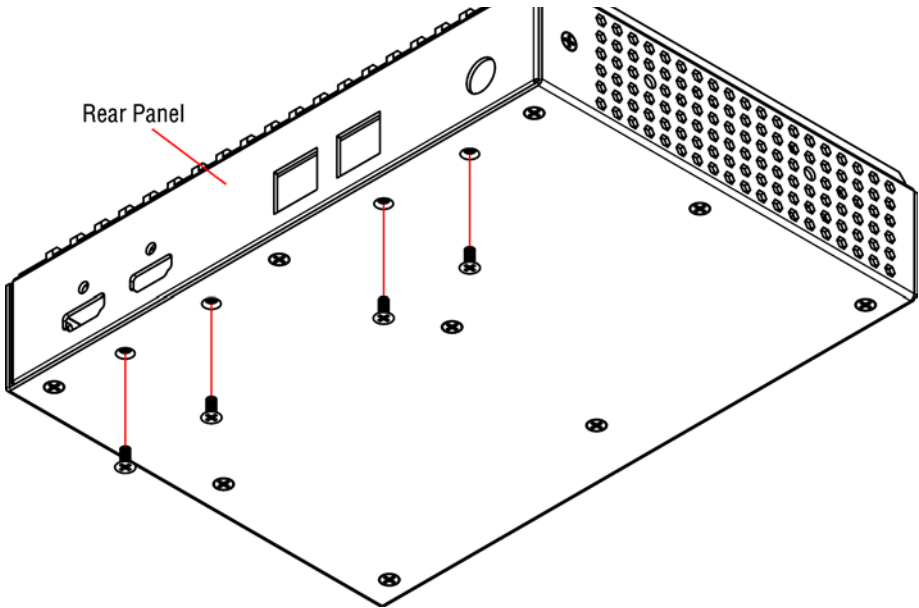

Figure 6. Removing the 4 screws from the underside of the device
1. Remove 4 screws from below the rear panel as shown in **figure 6**.